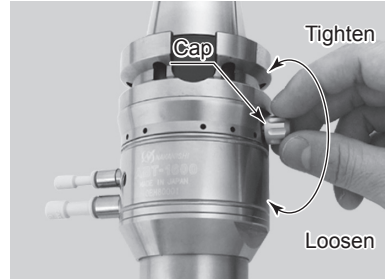

Fig. 15
- (1) Loosen the Cap pull out the Sensor Cable from the Wiring Connector straight (Fig. 15).